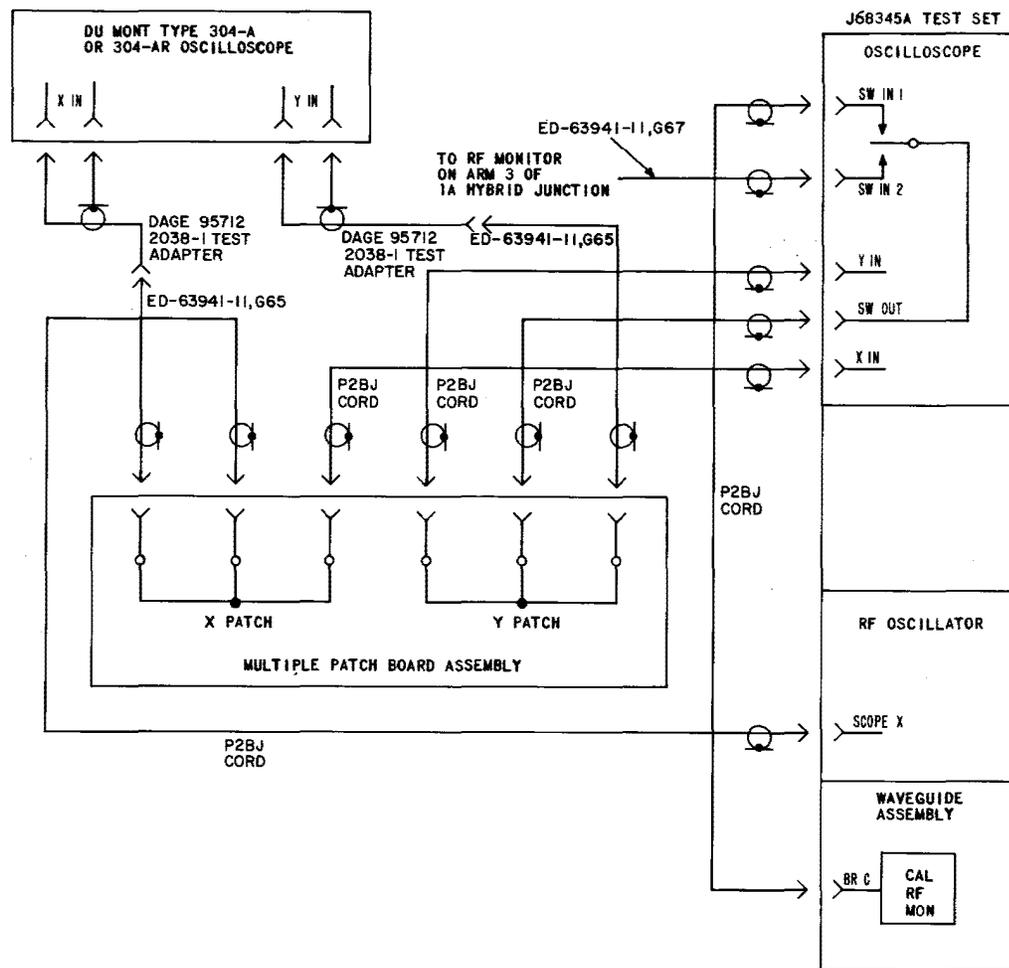

Fig. 2—Test Arrangement for Using the Dumont Type 304-A Oscilloscope and Multiple Patchboard
with coaxial connectors, as shown in Fig. 2. Interconnections can then be made quickly and simply with patch cords made up from the RG-59B/U coaxial cable.
- 14 Establish the test connections shown in Fig. 2. This connects the Dumont oscilloscope in parallel with the 45A test set oscilloscope.
11	<p>Set AT3 to 0 dB. The ripple pattern that now appears on the oscilloscope is an indication of the return loss of the antenna system under test. Each ripple component must be analyzed to determine if an antenna system will meet the return-loss objectives. Refer to Part 3 for ripple pattern analysis.</p> <p>Procedure for Photographing the Oscilloscope Pattern</p> <p>Note: If it is desirable to photograph the ripples obtained on the oscilloscope, the Dumont oscilloscope is more convenient for taking photographs than the KS-15586 oscilloscope on the J68345A test set because it has an illuminated scale, which is easier to read and shows well on the photographs. Its use requires only a very simple modification to blank out the retrace, as shown by the heavy lines in Fig. 1. The change can be made very quickly, on a temporary basis, and the oscilloscope returned to its normal condition after use. The only material required is a length of hookup wire. The Dumont oscilloscope can be connected in parallel with the oscilloscope on the 45A test set by making a multiple patchboard with coaxial connectors, as shown in Fig. 2. Interconnections can then be made quickly and simply with patch cords made up from the RG-59B/U coaxial cable.</p>